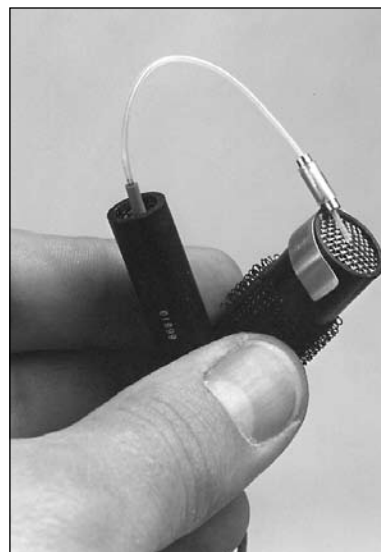

Figure C-1—Attaching the probe to the reference microphone
6. Insert the probe tube through the tube on the clip until the tip of the probe is at the center of the coupler microphone grid (Figure C-1).